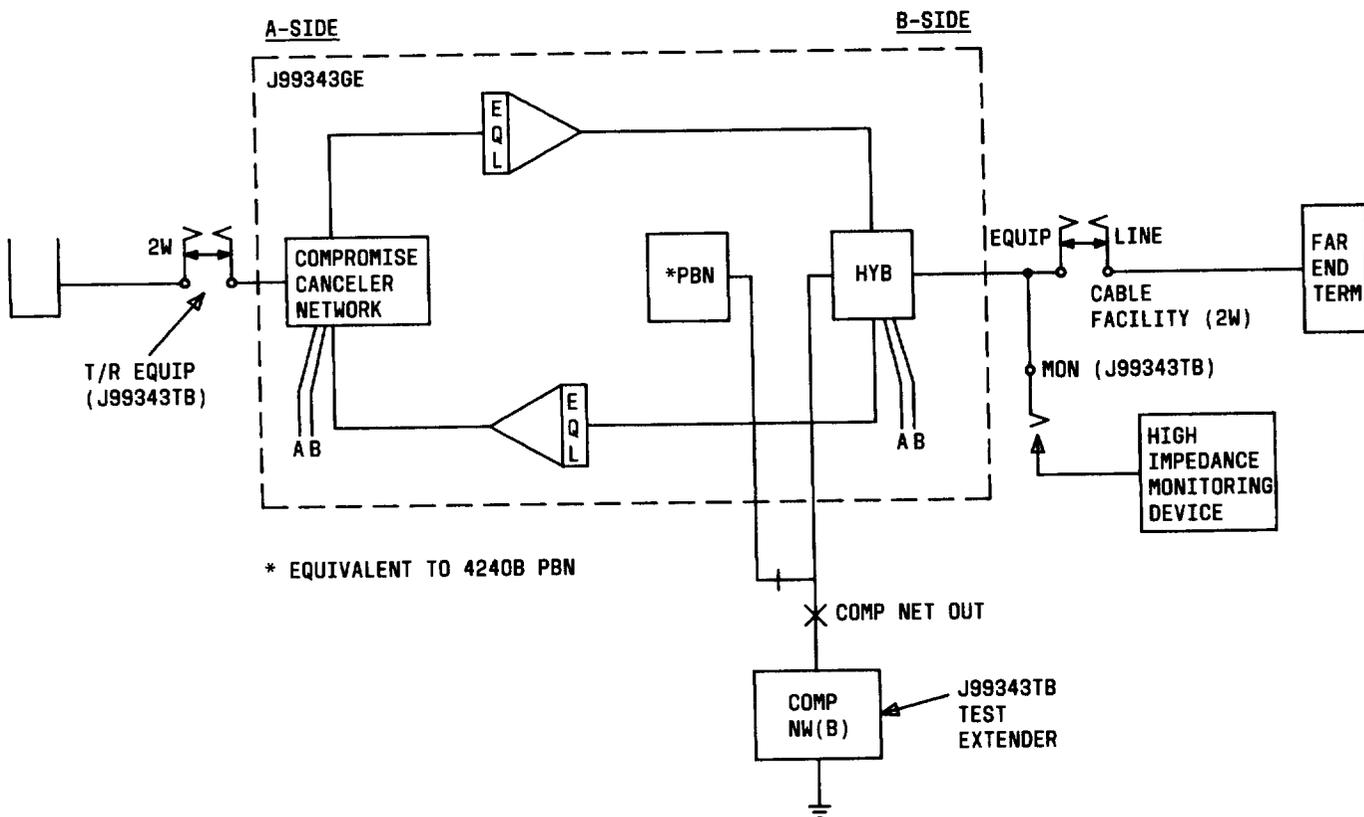

Fig. 5—In-Circuit Configuration for Stability Tests of the J99343GE Combined Function Unit
8.03 The idle-state stability tests are described in this part. The tests are made with all switching and signaling equipment in the circuit. The stability test procedures are outlined in Chart 5. An example test setup is shown in Fig. 5.
- 5 Connect high impedance monitoring device to monitor jack (MON) on the B side of J99343TB test extender. (See Fig. 5.)
Note: With the monitoring device connected as shown in Fig. 5, no sound other than battery noise should be audible.